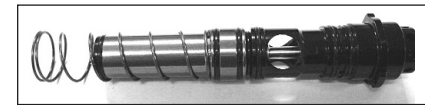

Fig 2.3
- Slide the main spring onto bolt, and then the bolt onto bolt guide, so it is one assembly. You will notice, one end of the spring is smaller and will lock onto the bolt (Fig. 2.3).